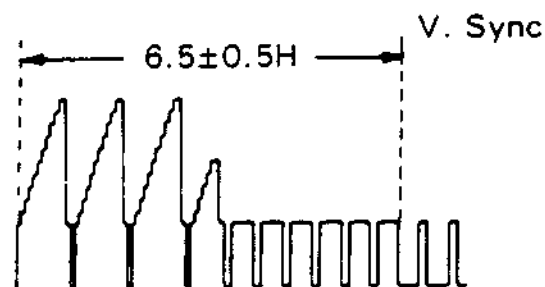

Fig. 2-5-1
- 3) Adjust R402 to position the trigger point 6.5 +/- 0.5 H from V.sync as shown in Fig 2-5-1.